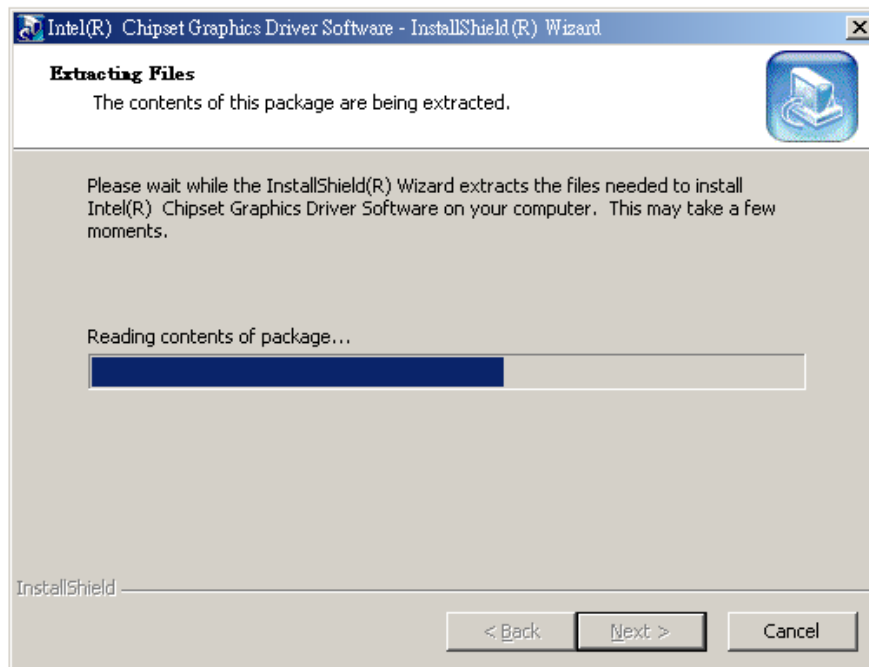

Figure 6-7: Preparing Setup Screen
Step 4: The Preparing Setup window appears next (Figure 6-7).